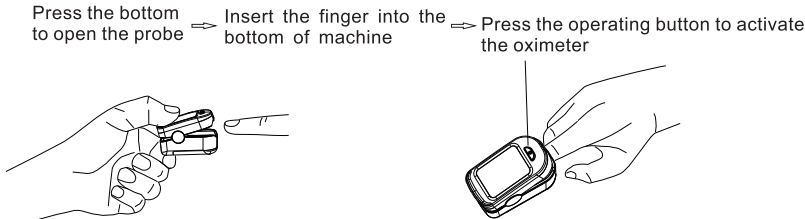

Figure 4.Operation Guide
- Hold the oximeter with the display facing toward you,slide your finger into the opening probe of the device,as shown below(Figure 4),until the fingertip touches the built-in stop guide.For best results,make sure the finger is centered with in the finger guide.